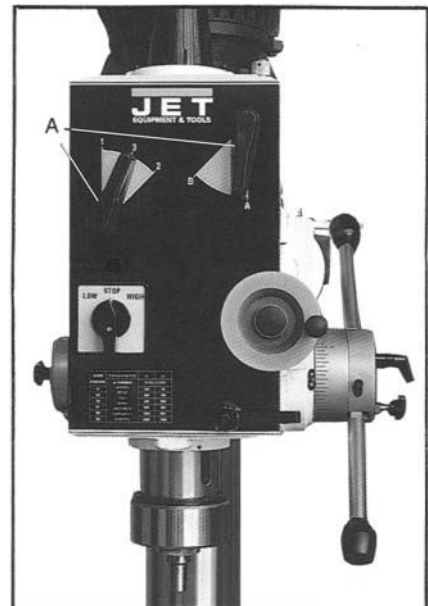

Figure 13
2. Adjust the levers (A, Figure 13) to the desired speed as indicated by the speed chart. Turning the spindle by hand will help the gear teeth mesh.